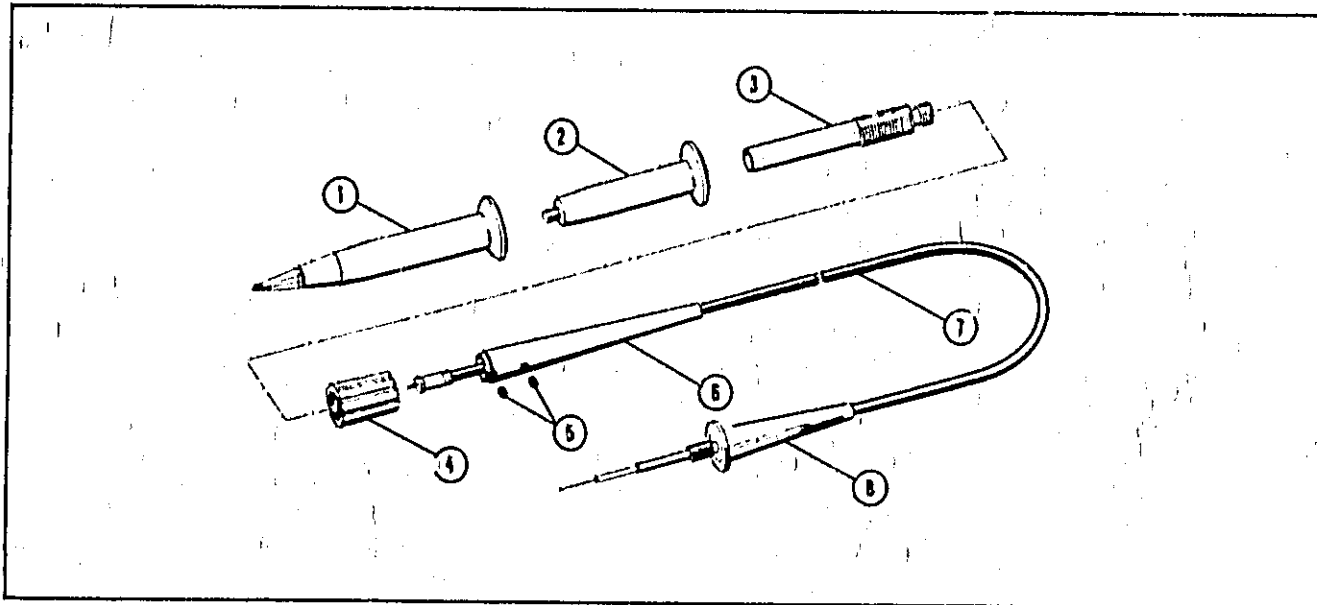

Figure 1. Voltage Probe Assembly, -hp- Part No.'s 412A-21A and 412A-21D,
*The item numbers in Tables 1 and 2 refer to Figures 1 and 2. Former -hp- Part No.'s are listed in parenthesis after part description.*
-hp- Part No.'s 412A-21A and 412A-21D (see Figure 1).